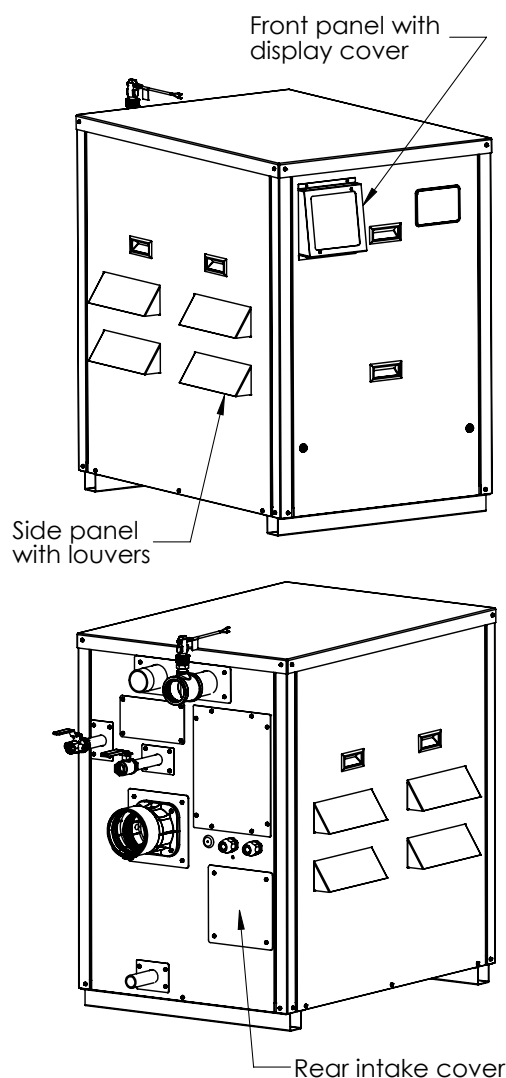

Figure 3: 400-1000L with Outdoor Trim
4. Verify model size and whether the appliance is supplied with indoor or outdoor trim. See Figure 3.